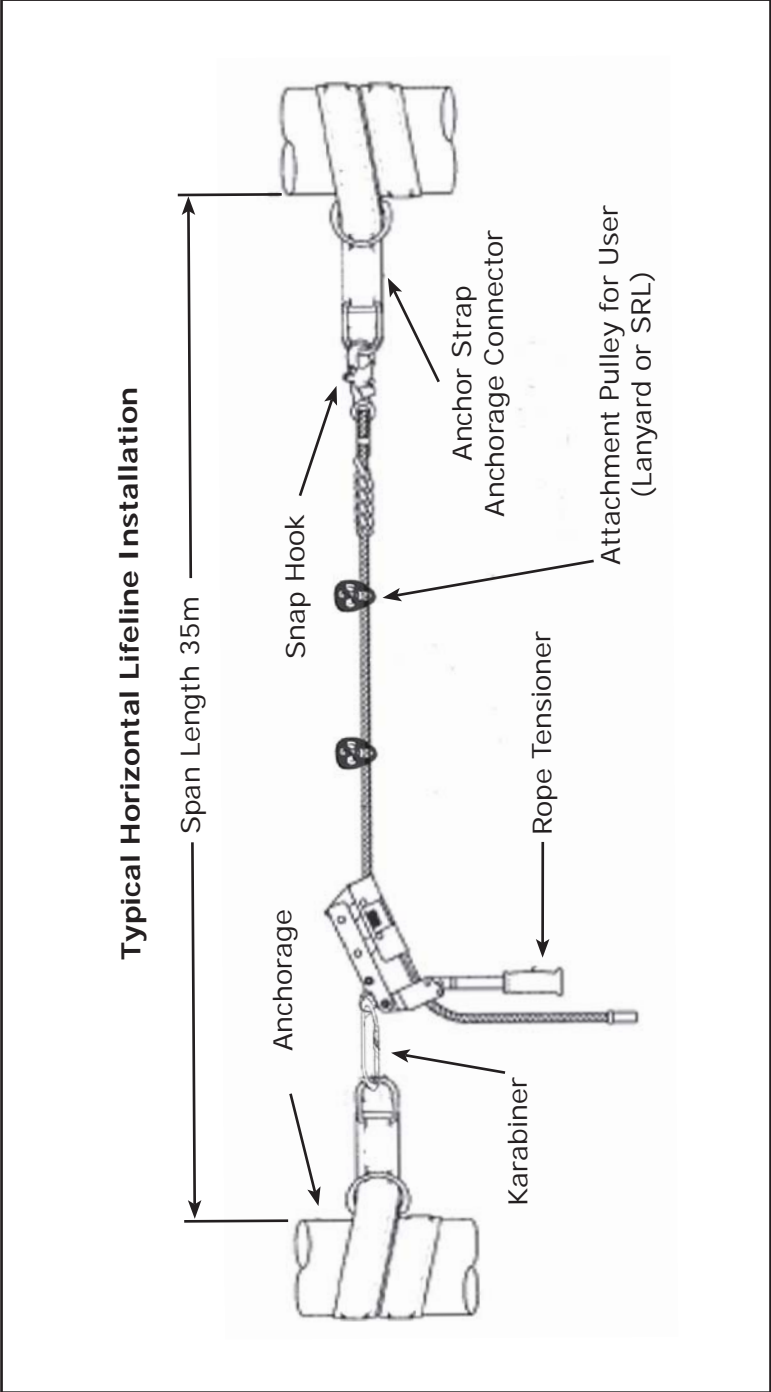

Figure 1
3.2 SYSTEM INSTALLATION: Figure 1 shows a typical Sayflite™ horizontal lifeline installation. When using an energy absorbing lanyard to connect to the system, the end anchorages must be located at a height which will limit the free fall to six feet. When using a self retracting lifeline (SRL) to connect to the system, the end anchorages must be located above the user. The SRL, when fully retracted, must be above the harness attachment level. The horizontal lifeline system should be positioned at a level that will minimize free fall while allowing ease of use. The horizontal lifeline should be positioned near the work location to minimize swing fall hazards. The connecting subsystem length should be kept as short as possible to reduce the potential free fall and required clearance distance. Both anchorages must be installed at approximately the same elevation, so that the horizontal lifeline system is not sloped more than five degrees.